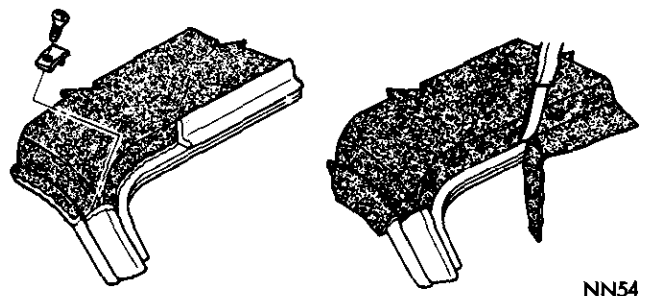
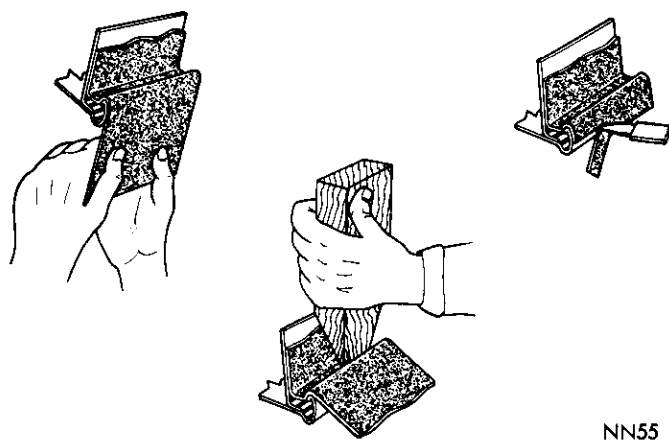
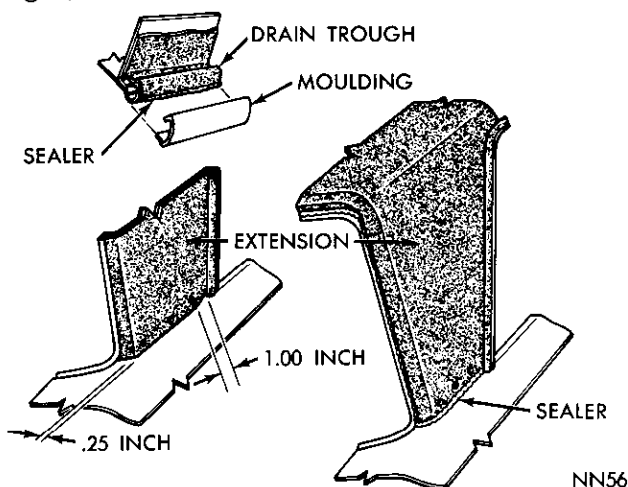

Fig. 7—Trimming and Sealing Cover at Windows
Fig. 8—Positioning Cover at Sides
Fig. 9—Sealing Cover at Sides—Sedan
(13) Trim fabric at base of windshield reveal, half-way between upper and lower edges of pillar moulding (Fig. 7).
(14) Trim fabric at base of rear window reveal.
(15) Using a dull pointed tool, press fabric into drain trough to achieve maximum contact of roof cover material to drain trough (Fig. 8).
(16) Grasp outboard edge of cover and while pulling material outward and down, use upper edge
of drain trough flange as a breakover for draping material on to outboard drain trough flange face (Fig. 8). **Care must be taken to avoid pulling loose the cover material applied to base of drain trough.**
(17) Press material against drain trough flange face for full length of outboard sides of roof cover.
(18) Trim excess material hanging below drain trough flange about 1/8 inch above lower edge of flange (Fig. 8).
(19) Locate and drill index hole for front pillar moulding upper locating boss (Fig. 7). (Original installation only).
(20) Apply a bead of sealer to edge of cover and blend upward to form a seal over staples and cover edge. Extend seal across trimmed edge on "A" post (Fig. 7).
(21) Locate and punch holes in cover at roof extension belt line.
(22) Trim cover on a line 1/4 inch below belt line moulding holes and curving upward to meet drain trough (Figs. 9 and 10).
(23) Apply a bead of sealer to trimmed edge of cover at roof panel and smooth out to form a seal (Fig. 7).
(24) Apply a 1/4 inch ball of sealer to index studs of pillar mouldings.
(25) Position moulding by inserting a locating pin in index hole and align moulding.
(26) Using hole in moulding as a guide, drill a .120 diameter hole in pillar and fasten in place with a screw (original installation only).
(27) Install side drain trough mouldings (Fig. 9), windshield and rear window mouldings.
(28) Remove masking material and inspect cover for air bubbles.